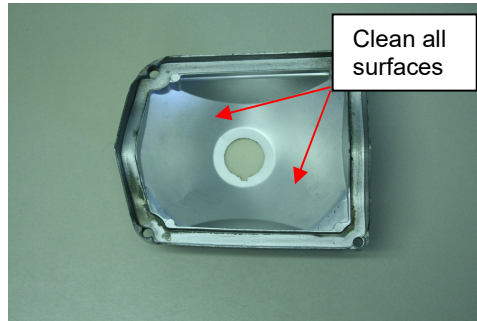

Figure 1
2. Clean the flat surfaces on the inside of the housing. (See Figure 1) Note: These surfaces must be clean and dry to the best adhesion of the mounting tape that will hold the LED panels in position.